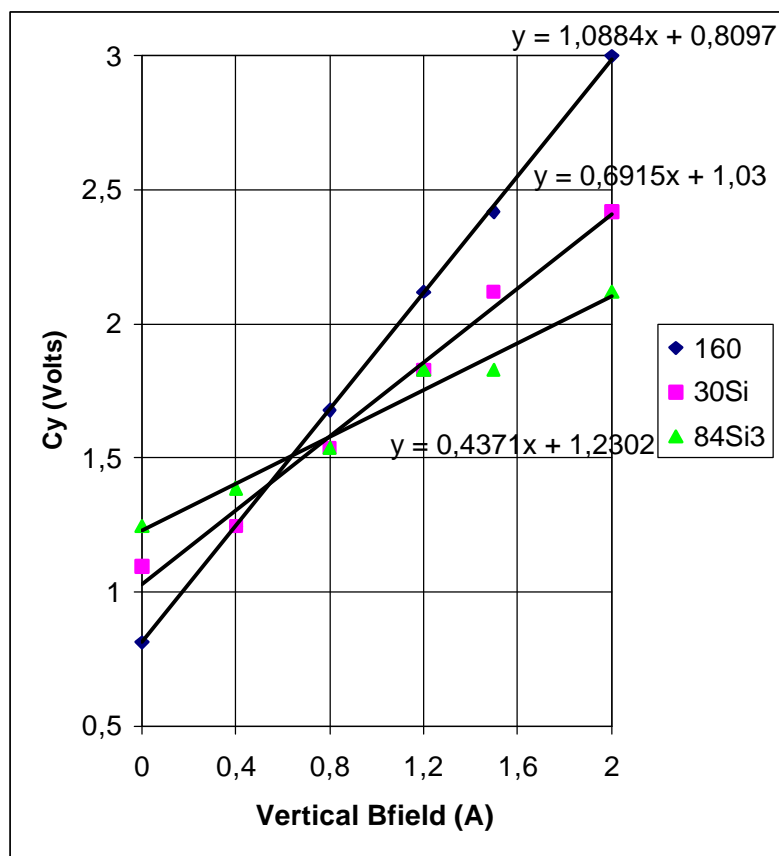
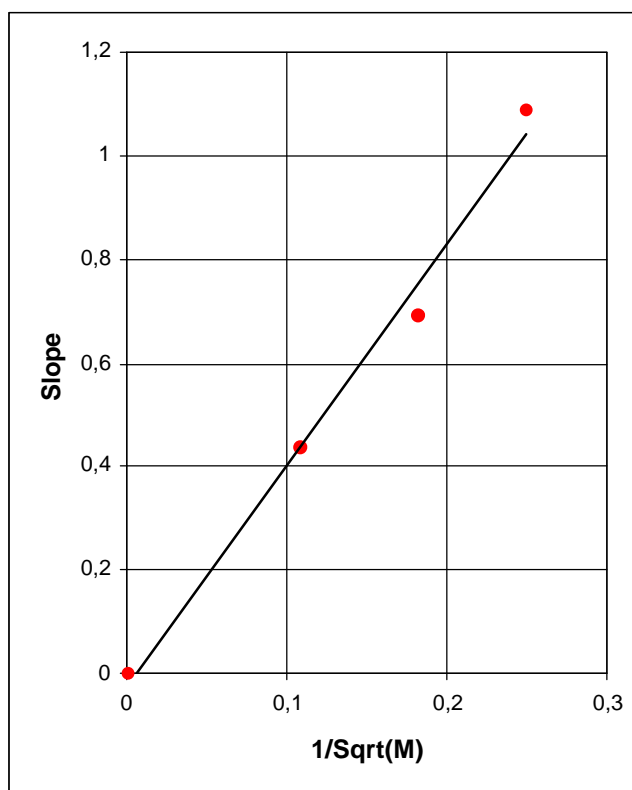

Figure 9: Horizontal coil tuning.
Figure 10: Slope vs  $1/M^{1/2}$
- ☐ Compute for each mass line the slope of the graph as shown on figure 9 and check that this slope is proportional to  $1/M^{1/2}$  (figure 10). If not try to redo the measurements in order to get a good fit for the slope.
- ☐ Determine the optimum by looking at the intersection of the different linear fit as shown in figure 9.
Figure 10 shows that the slope of the linear fit is proportional to  $1/\sqrt{M}$ , demonstrating that this effect is a pure magnetic field effect.